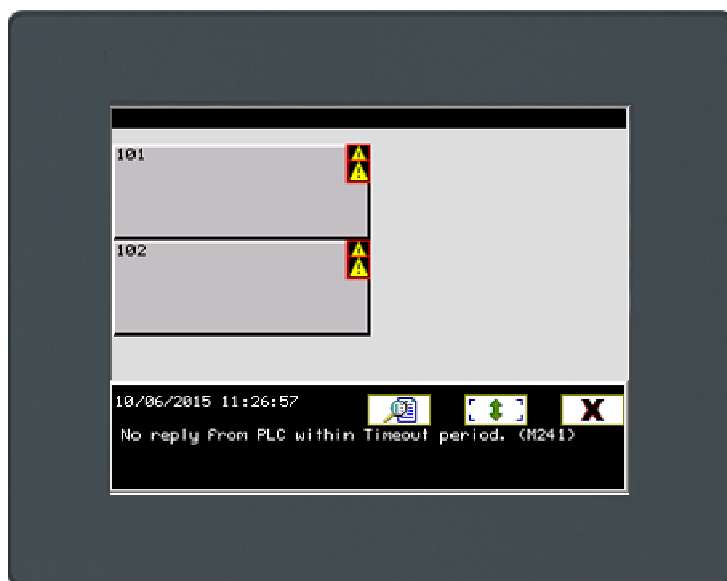

Fig. 8: No communications
7.5 No Communication to HMI (Fig.8). In this case, there will be yellow triangles on some of the buttons of the HMI. Known causes of this issue are: